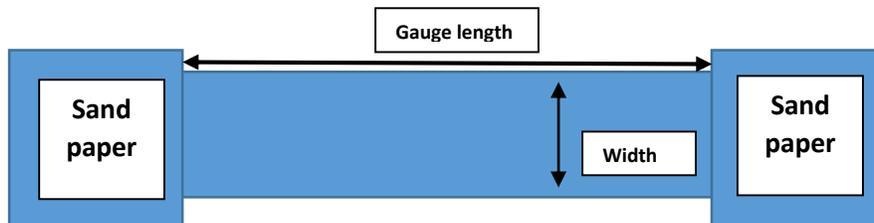

Figure 2 Visual measurement definitions
4. Using a caliper measure (in mm) gauge length and width FIGURE 2 (RECORD IN LAB NOTEBOOK) use a sharpie to mark the ends of the gauge length.